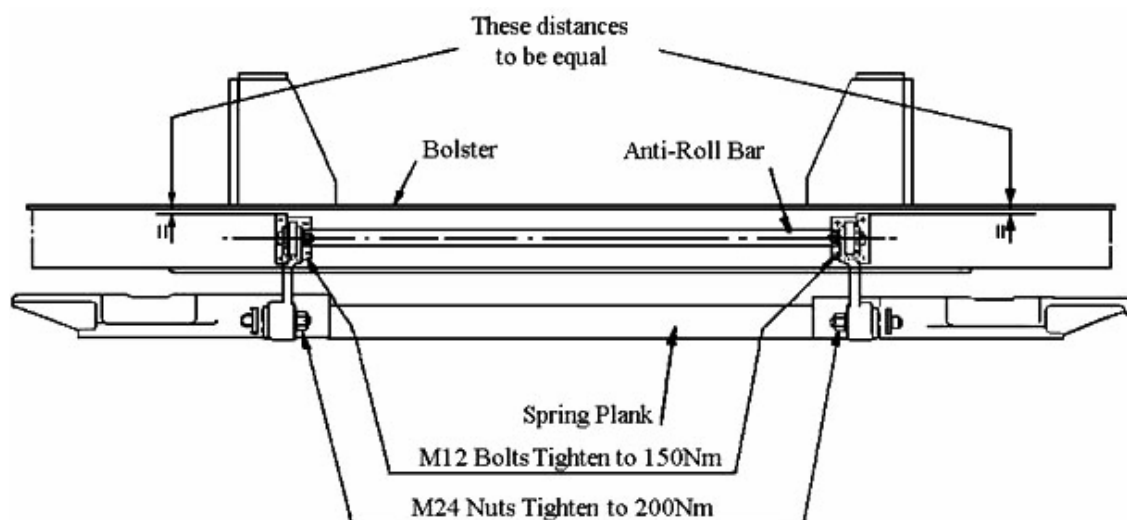

Figure 1.3: Alignment of Anti-Roll Bar
- 1.7.3 Align anti-roll bar with bolster top plate (see Figure 1.3).